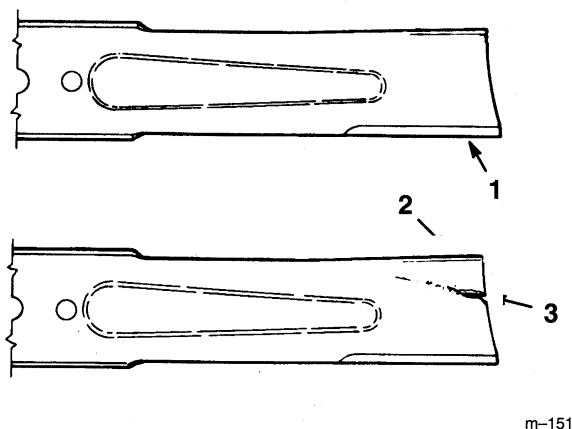

Figure 20
1. Inspect the cutting edges (Fig 20). If the edges are not sharp or have nicks, remove and sharpen the blades. Refer to Sharpening the Blades on page 16.
2. Inspect the blades, especially the curved area (Fig. 20). If you notice any damage, wear, or a slot forming in this area (item 3 in Fig. 20), immediately install a new blade.